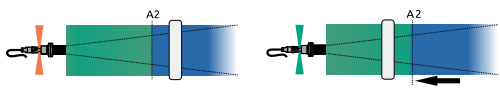

Figure 17 - Single trigger on approaching object
- The output signal switches when the object approach distance (S) is smaller than the adjustment distance (A2). The operating principle is shown in Figure 17. A user-wide setting must be implemented for operation:  $A2 = S, A1 \rightarrow \infty$